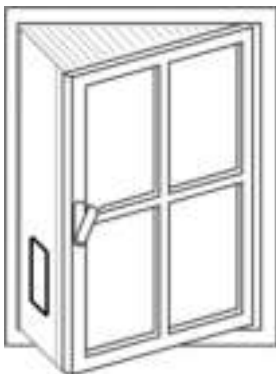

Fig 5 Installation of window panel 25
- Connect the window panel adapter to the window panel (see Fig. 5 / 6).
- For the window type Fig. 5, please note that the Hot air stop can be purchased from our service department or via our homepage to seal the top and bottom surfaces